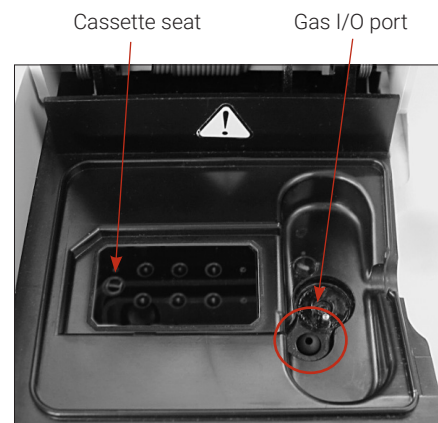

Figure 27. Inside the sample measurement chamber
7. Open the SMC cover. Remove the black gas I/O port seal (figure 27) by grasping it with a hemostat or tweezers and firmly pulling upward. Discard the old gas I/O port seal.